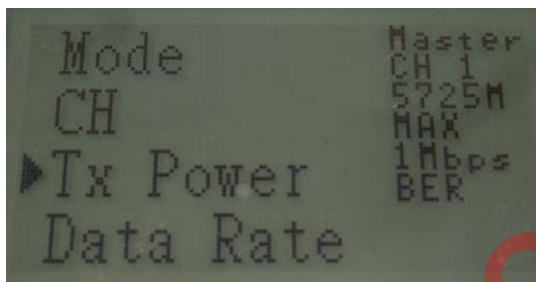

Fig.5
1. Press '↓' or '↑' button to move indicator to 'Tx Power' as shown in Fig.5.